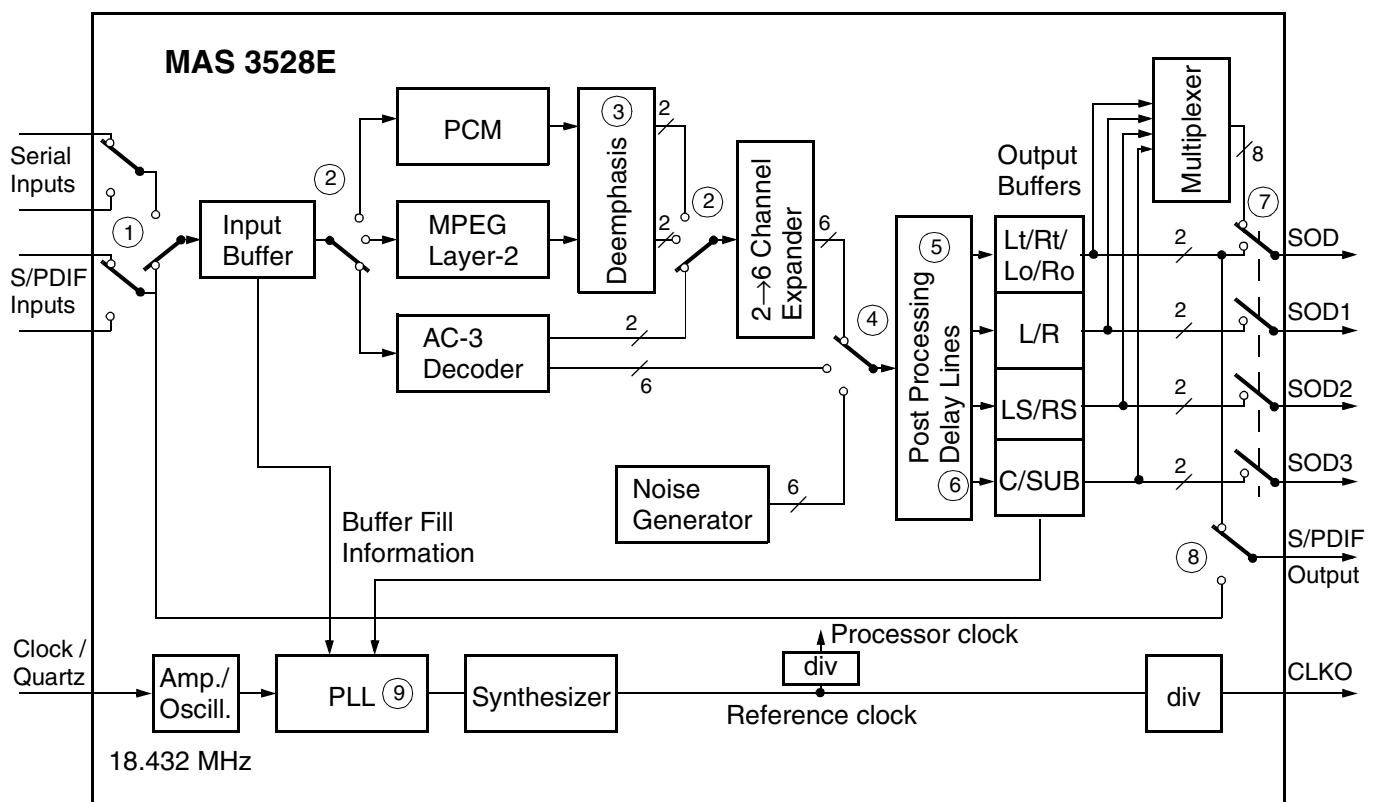

Fig. 2–2: Functionality of the MAS 3528E
A block diagram of the MAS 3528E functionality is shown in Fig. 2–2.
Both input interfaces, the S/PDIF (default ① in Fig. 2–2) or the serial input interface, may carry any of the three data formats: Dolby Digital (AC-3), MPEG Layer-2, or PCM. The filling status of the input buffer represents the data rate and therefore controls the system clock. The input interface can be selected in the UIC\_IO control D0:13D0.